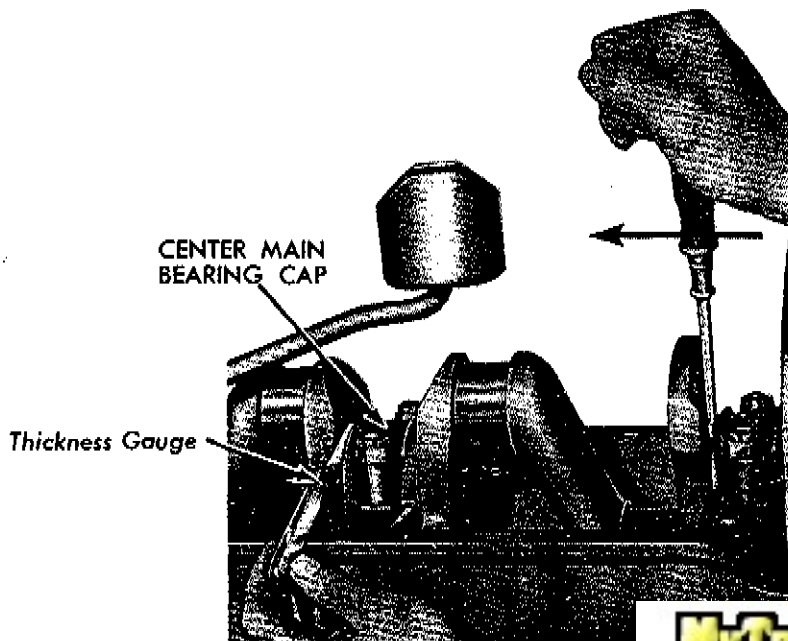

Fig. 46—Measuring Crankshaft
a. **Install Crankshaft.** Install the three upper halves of the main bearing inserts in the cylinder block. Install the three lower halves of the main bearing inserts in the two main bearing caps and oil pump body. Coat the main bearing inserts with a light film of oil. Install the crankshaft rear bearing oil seal retainer and seal in the rear of the cylinder block. Place the crankshaft in the cylinder block, and install the main bearing caps and oil pump body on the cylinder block. Install the main bearing cap nuts or self-locking nuts and tighten them from 80 to 90 pounds-feet if using self-locking nuts. Tighten from 75 to 80 pounds-feet if using castellated nuts. Pry the crankshaft forward and insert a feeler gauge as shown in Fig. 46.